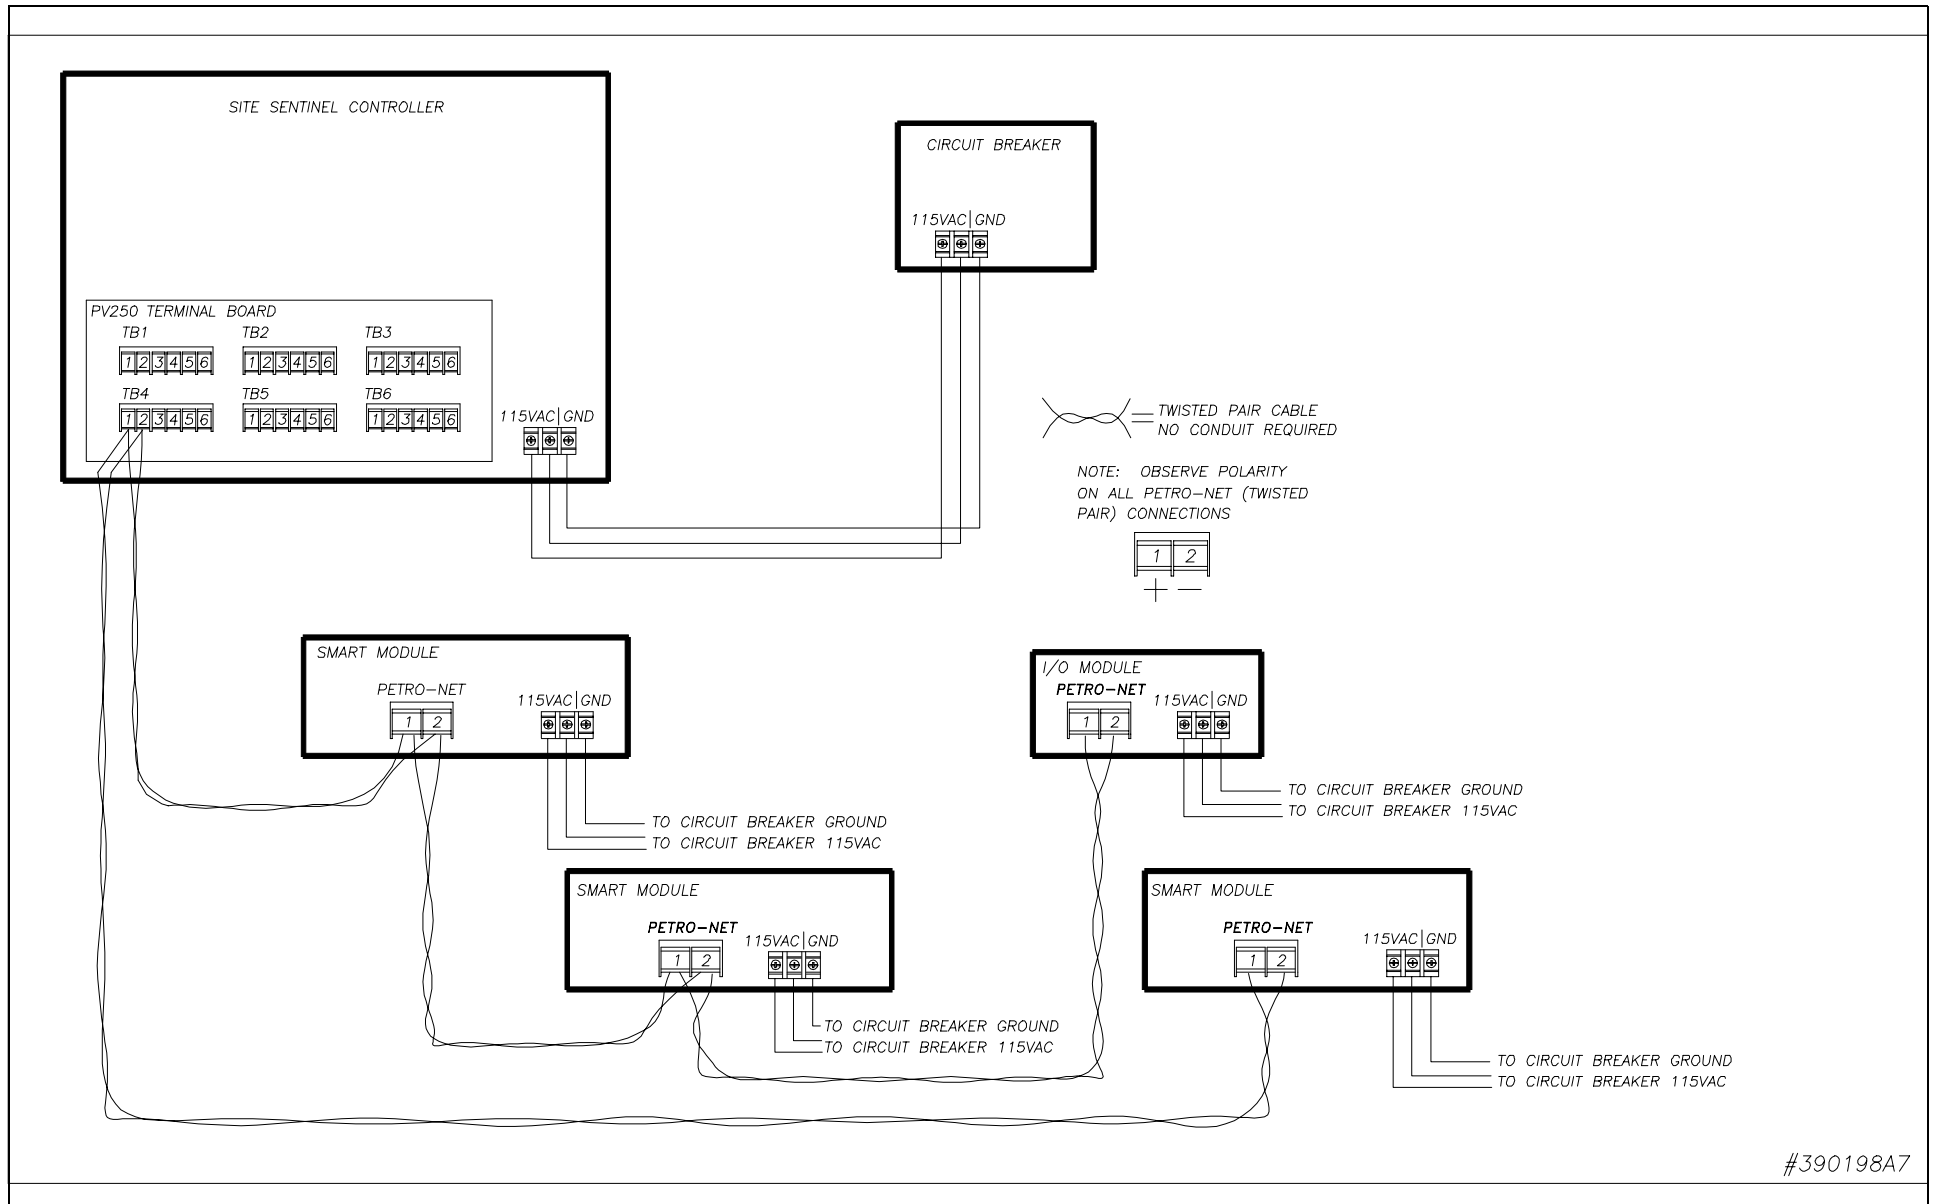

Figure 33 - Smart/IO Module Wiring, Site Sentinel Model II
1. See Figure 33 on Page 55. Pull two AC power wires from the circuit breaker to each module; you may "daisy chain" the wires from module to module, not to exceed the circuit breaker rating.